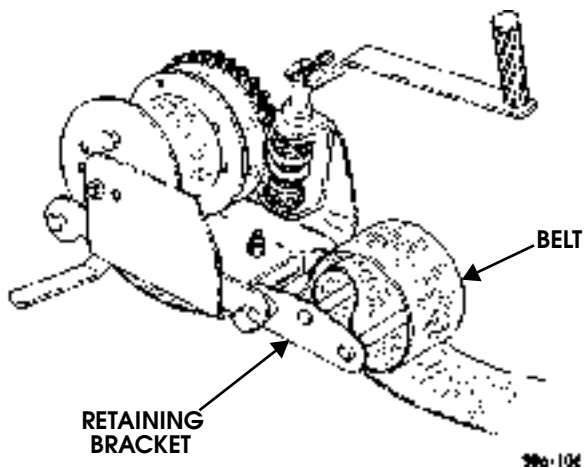

Figure 6-22: Runflat Compressor Belt Installation
2. Loop free end of belt around retaining bracket (Figure 6-22).